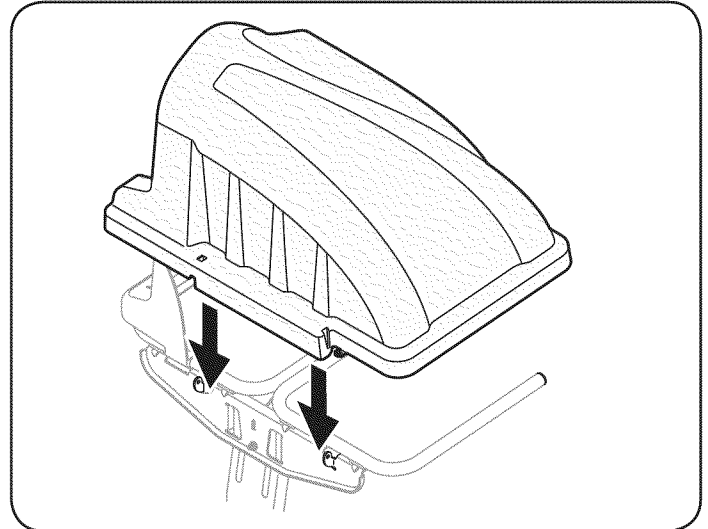

Figure 11
3. Install the grass catcher cover onto the bag support assembly, as seen in Figure 11. The grass catcher cover goes inside of the two mounting tabs on the bag support assembly.